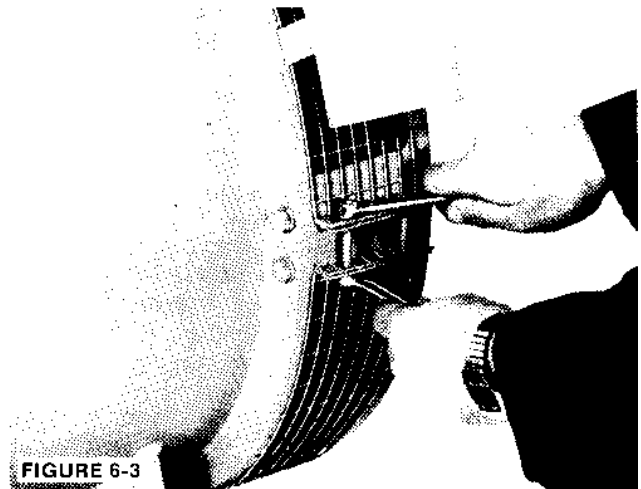

FIGURE 6-3
5. a. For single bearing generators, remove the bolts mounting the screen assembly to the SAE adapter and remove the screen. (Figure 6-3.) (NOTE: Do not remove the dripcover from the screen assembly if so equipped.) Remove the capscrews attaching the drive discs to the flywheel and remove the capscrews attaching the SAE adapter to the flywheel housing.